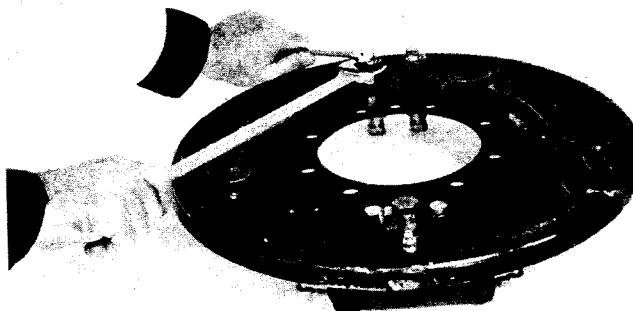

FIG. 121
3. Coat eccentric of anchor pin with Never-Seez compound and position on brake disc. Secure with nut and lockwasher, but do not tighten (Fig. 121).